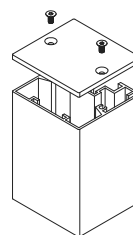

Figure 4a
- If applicable, install end caps at end of stick. For 4" and 6" models, end caps will be marked with a colored sticker to help identify correct installation. (Figure 4a)